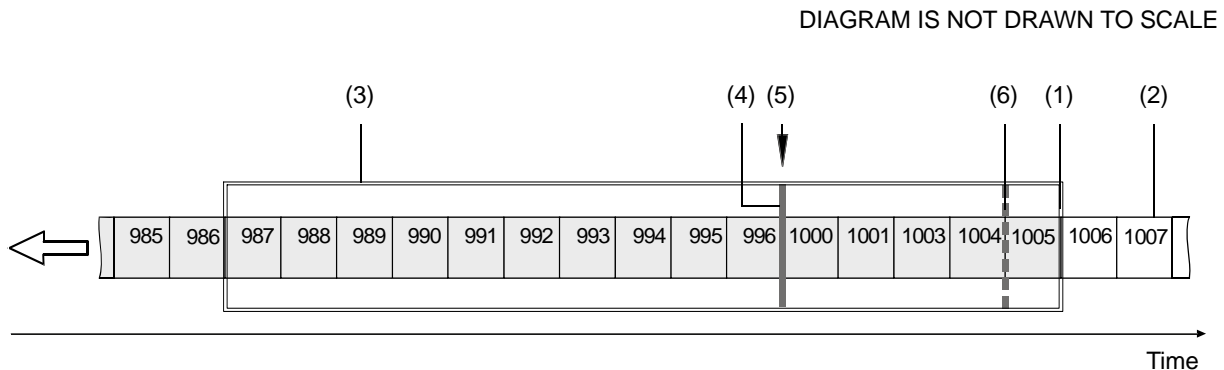

Fig. 16: Example of a Receive Window with Resend Request Threshold & Resend Request Batching Threshold
The threshold resend request mechanism is illustrated in Figure 16 where the following assumptions are made:
- (1) Front end of the receive window. Missing packets are detected here.
- (2) Stream of packets. Gray indicates that the status was checked as the packet entered the receive window. White indicates that the status has not yet been checked.
- (3) Receive window of the performance driver.
- (4) Threshold for sending resend requests (resend request threshold).
- (5) A separate resend request is sent for each packets 997, 998, and 999.
- (6) Threshold for batching resend requests for consecutive missing packets (resend request batching threshold). Only one resend request will be sent for the consecutive missing packets.
**Resend Request Threshold** - This parameter determines the location of the resend request threshold within the receive window as shown in Figure 16. The parameter value is in per cent of the width of the receive window. In Figure 16 the resend request threshold is set at 33.33% of the width of the receive window.
A stream of packets advances packet by packet beyond the resend request threshold (i.e. to the left of the resend request threshold in Figure 16). As soon as the position where a packet is missing advances beyond the resend request threshold, a resend request is sent for the missing packet.
In the example shown in Figure 16, packets 987 to 1005 are within the receive window and packets 997 to 999 and 1002 were detected as missing. In the situation shown, a resend request is sent to the camera for each of the missing consecutive packets 997 to 999. The resend requests are sent after packet 996 - the last packet of the intact sequence of packets - has advanced beyond the resend request threshold and before packet 1000 - the next packet in the stream of packets - can advance beyond the resend request threshold. Similarly, a resend request will be sent for missing packet 1002 after packet 1001 has advanced beyond the resend request threshold and before packet 1003 can advance beyond the resend request threshold.
**Resend Request Batching** - This parameter determines the location of the resend request batching threshold in the receive window (Figure 16). The parameter value is in per cent of a span that starts with the resend request threshold and ends with the front end of the receive window. The maximum allowed parameter value is 100. In Figure 16 the resend request batching threshold is set at 80% of the span.
If the Resend Request Batching parameter is set to 0, no batching will occur and a resend request will be sent for each single missing packet. For other settings, consider an example: Suppose the Resend Request Batching parameter is set to 80 referring to a span between the resend request threshold and the front end of the receive window that can hold five packets (Figure 16). In this case 4 packets ( $5 \times 80\%$ ) will fit into the span between the resend request threshold and the resend request batching threshold. Accordingly, the maximum number of consecutive missing packets that can be batched is 5 ( $4 + 1$ ).